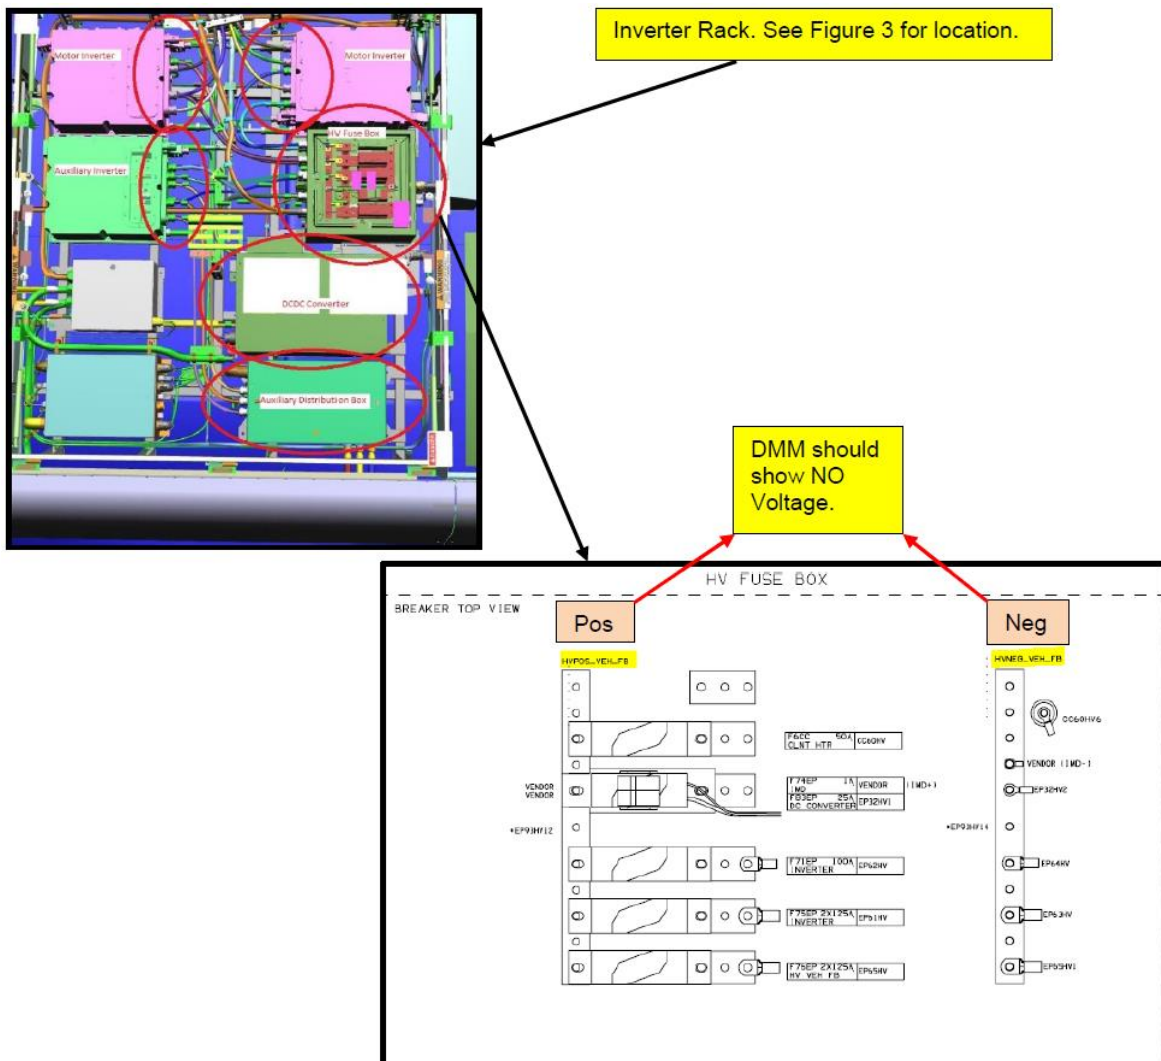
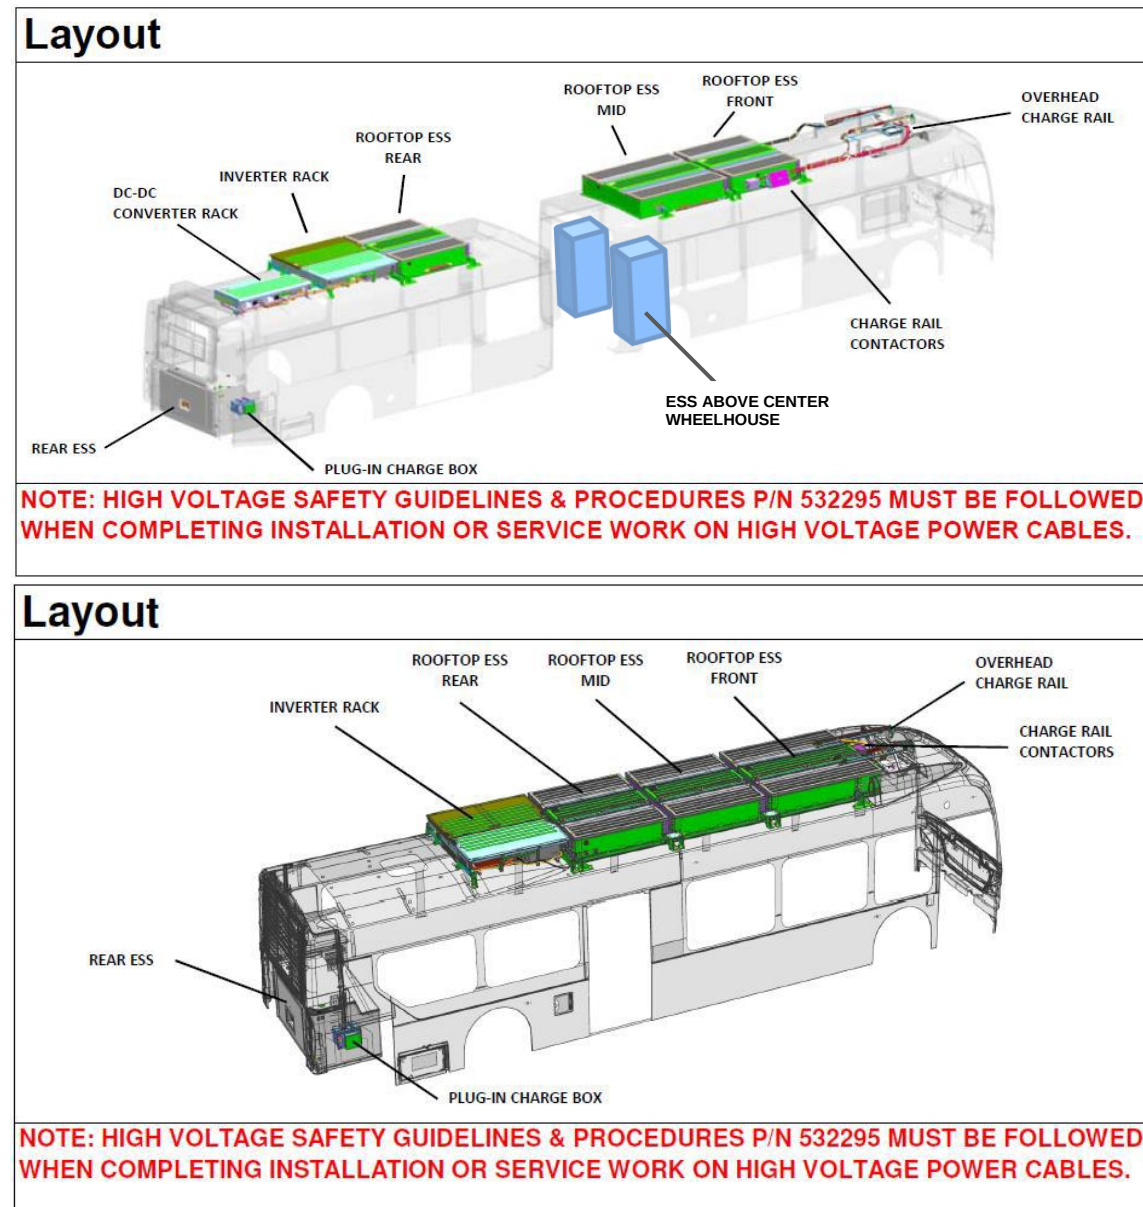

Figure 2: High voltage fuse box location reference
Figure 3: Battery pack string location reference
- 1.8 Using an appropriate voltmeter as per appendix A, confirm that no voltage is present between HVPOS_VEH_FB & HVNEG_VEH_FB before proceeding. See Figure 2. These connections are located inside the HV Fuse box inside the inverter rack. See Figure 3 layout for location.
- 1.9 Identify the location(s) of the ESS compartments that will require work. See Figure 3. (Refer to your wiring schematic or schematics often located on the underside of the ESS enclosure lids)